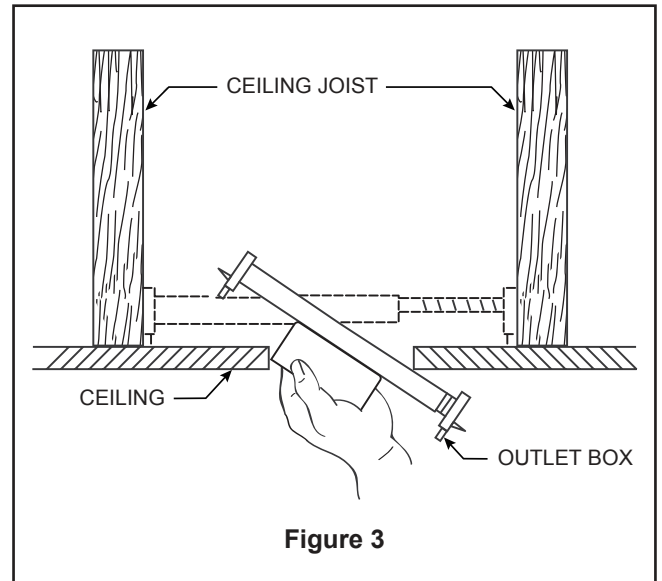
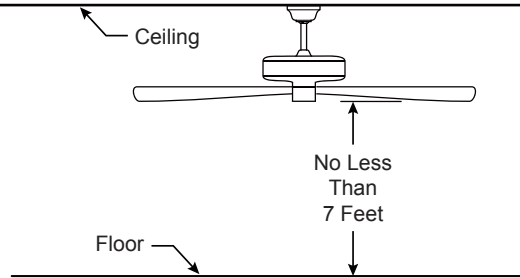

Figure 3
Figure 2
Your new ceiling fan will require a grounded electrical supply line of 120 volts AC, 60 HZ, 15 Amp Circuit. Electrical code requires use of a fan-rated outlet box to support the extra weight and motion associated with a ceiling fan. A fan-rated outlet box will be labeled as such and typically supports up to a 70lb ceiling fan. Fan-Rated Outlet Boxes vary in ratings and design. Ensure the ratings of your ceiling fan outlet box meet the requirements for the ceiling fan being installed. Figure 1, Figure 2 and Figure 3 depicts different structural configurations that may be used for mounting the outlet box.
Deep outlet box (Figure 2)
Deep outlet box with brace (Figure 3)
2. Remove the hairpin clip and clevis pin from the bottom of the downrod. Retain the pin and clip for reinstallation in Step 4. (Figure 2)
3. Loosen the two set screws and locking nuts in the downrod support of the motor assembly. Route the black, white and blue wires through the downrod. (Figure 3)
2. Assemble the housing assembly to the support bracket using the two key slots in the housing assembly. Replace the previously removed screw and securely tighten all three screws. (Figure 2)
The fan must be hung with at least 7' of clearance from floor to blades. (Figure 2)
To avoid possible electrical shock, be sure electricity is turned off at the main fuse box before wiring. (Figure 2)
- 2. Securely attach and tighten the canopy screw cover over the shoulder screws in the hanger bracket utilizing the key slot twist-lock feature. (Figure 2)
2. Restore electrical power to the outlet box by turning the electricity on at the main fuse box. (Figure 2)